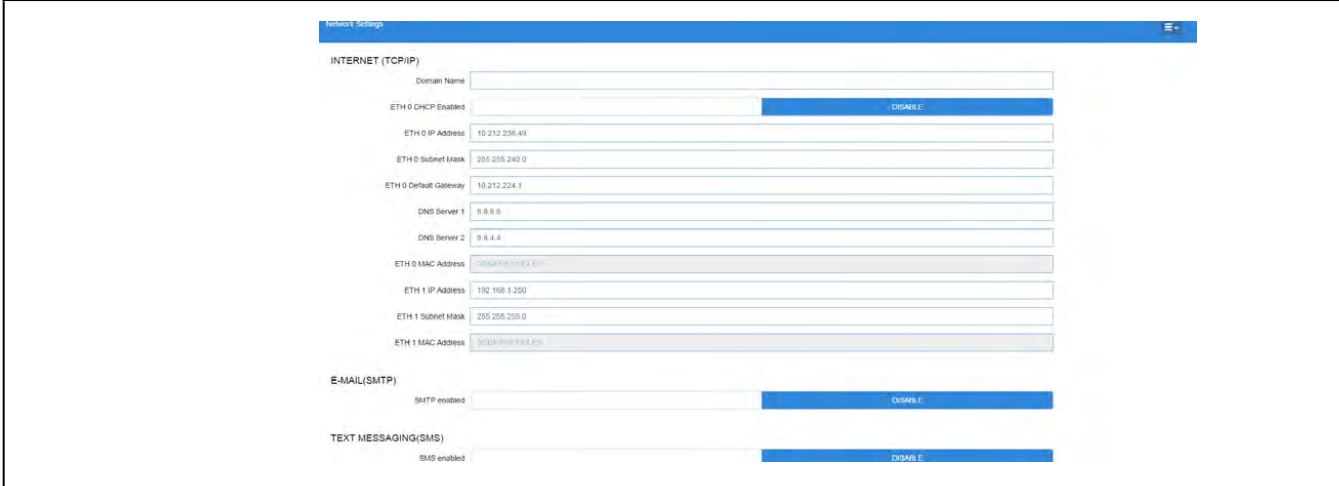

Figure 1-5 - Enter IP Address in the ETH 0 IP Address Field
1. Create a “network.txt” with your desired settings (**Figure 1-5**):